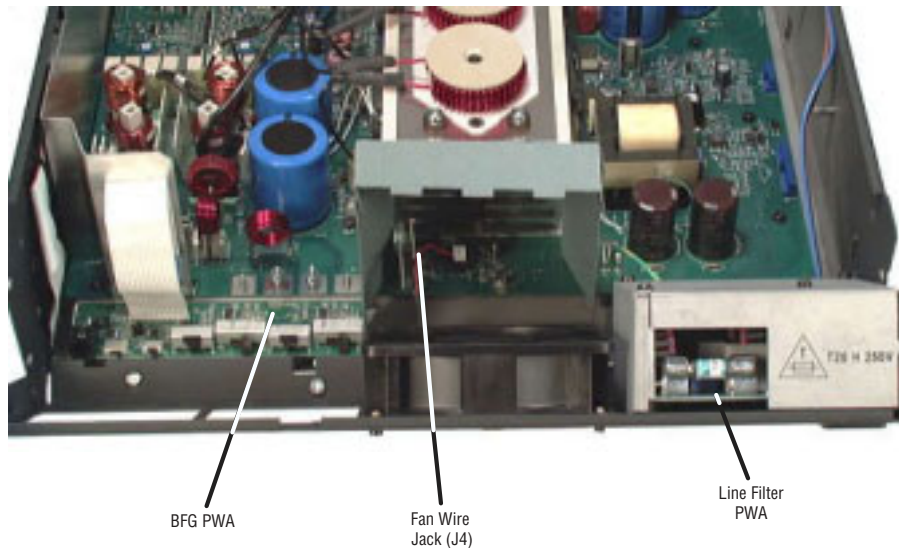

Figure 4.2 CE 4000 Top View B
5. Disconnect the ribbon cable from the Main PWA at J6. (see Figure 4.2)